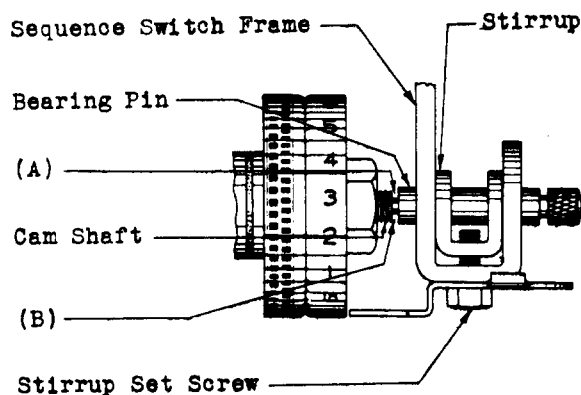

Fig. 2
(b) Fig. 2(A) — *The cam shaft bearing at the stirrup end of the switch* shall be adequately lubricated with Veedol medium cup grease. When lubrication is necessary, one discharge of grease shall be applied.
2.04 End Ply of Cam Shaft: Fig. 2(B) — The sequence switch cam shaft shall have some end play in its bearings but this end play shall be: